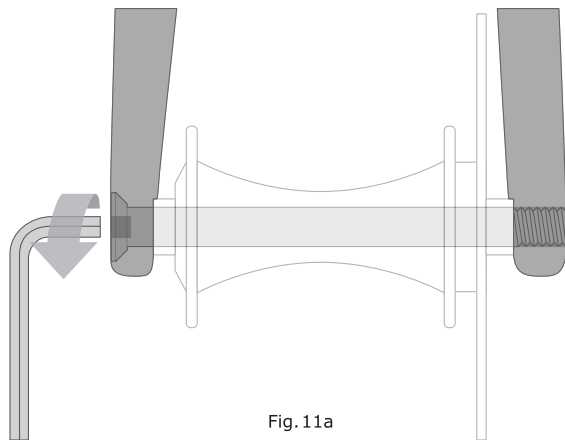
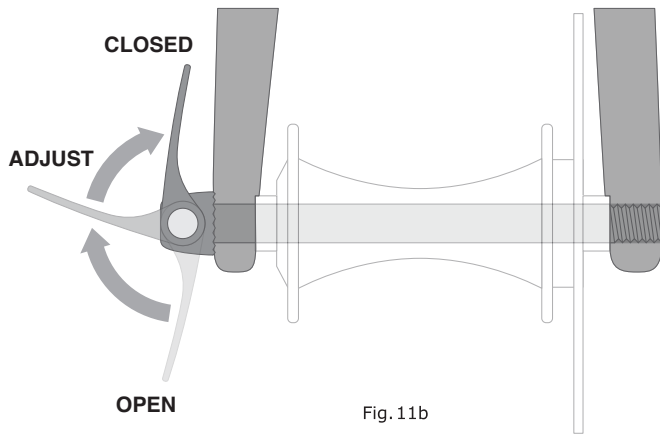

Fig. 11a
Fig. 11b
The thru-axle is inserted through the unthreaded hole in the frame or fork's dropout, through the wheel hub, and is threaded directly into the opposing dropout by tightening the thru-axle. Common installation methods may use an Allen hex key [Fig. 11a] or a cam lever [Fig. 11b]. Please refer to the manufacturer's instructions for specific information about your thru-axle's operation, including correct torque specifications or lever adjustment information.
(4) If your bike has a thru-axle front wheel mounting system [Fig. 11a & 11b], loosen and remove the thru-axle according to the manufacturer's instructions, then remove the wheel.
(5) If your bike has a thru-axle rear wheel mounting system [Fig. 11a & 11b], loosen and remove the thru-axle according to the manufacturer's instructions.
(6) Push the rear wheel forward far enough to be able to remove the chain from the rear sprocket, then lift the rear wheel off the ground a few inches and remove it from the rear dropouts.
(b) With a through-bolt or bolt-on system [Fig. 11a], tighten the fasteners to the torque specifications in the hub manufacturer's instructions.
[Fig. 11b], make sure that the threads of the through-bolt are engaged and evenly threaded within the receiving dropout hole or nut before moving the cam lever upward and into the CLOSED position. To apply enough clamping force, you should have to wrap your fingers around the seatstay or chainstay for leverage, and the lever should leave a clear imprint on the palm of your hand.